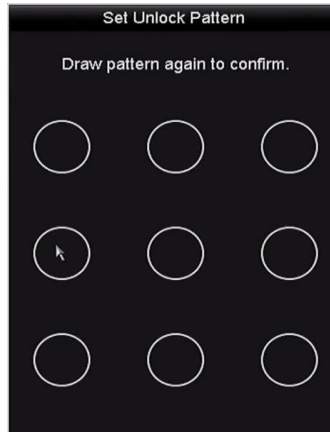

Figure 2-8 Confirm the Pattern
Step 1 Right click the mouse on the screen and select the menu to enter the interface as shown in Figure 2.8.